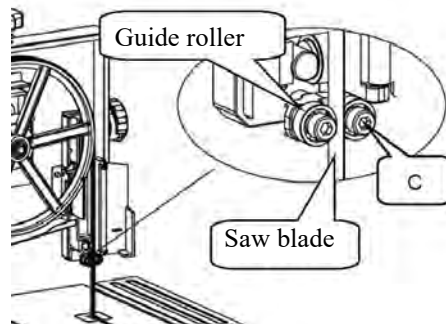

Fig. 26: Setting the tape guide
Step 4: Loosen the hexagon socket screw (C, Fig.26) and set the guide bearing to a position 0.5 mm from the blade. Tighten the Allen screw (C, Fig.26) again.